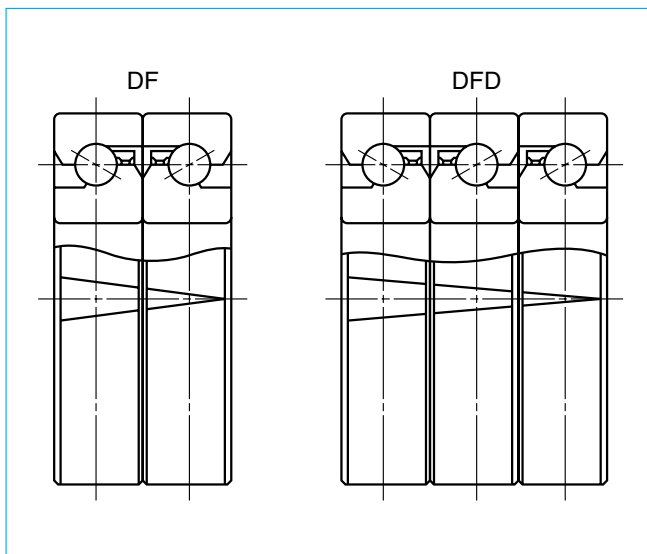

Fig. I-6-2 Examples of combination and "V" mark
- Figure I-6-2 shows examples of combinations. There is "V" mark on the outside surface of the bearing to avoid misarrangement. A complete letter "V" should be formed when all bearings align correctly to form a set.
2. Universal combination bearing (SU)